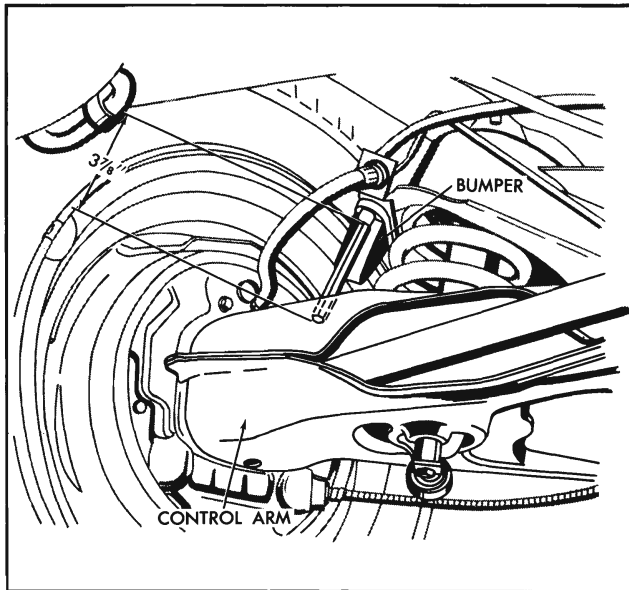

Fig. 3-10 Measuring Rear Suspension Curb Height
2. At rear, measure height at a point directly behind spring (Fig. 3-10).